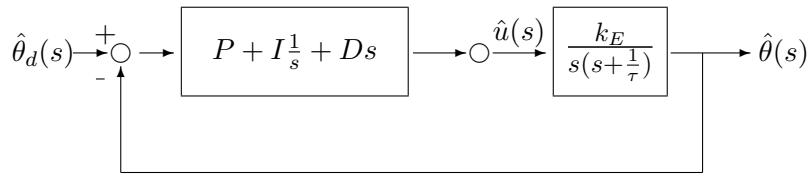
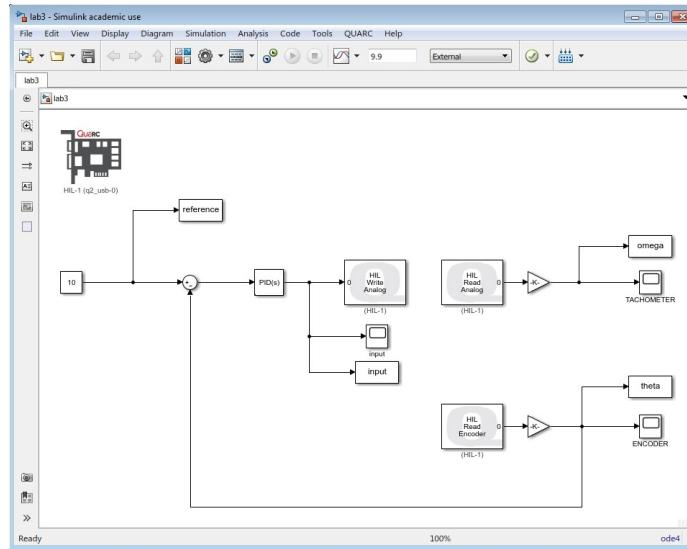

Figure 1.1: PID control system
Figure 1.3: Simulink model for the implementation of PID control
In this lab you will be examining the effects of feedback on system performance. In particular, you will design a control, R_C , for the motor using the principles of PID control as shown in Figure 1.1.
1. Using the Simulink model shown in Figure 1.3, and identify the corresponding components from Figure 1.1, i.e. what block acts as the plant, what is the reference trajectory, input, output, etc.
1. Prepare a Simulink model to implement a PID controller as shown in Figure 1.3. *Modify your model from lab 1 or 2.* The PID block can be found in the Simulink
2. Set the desired angle to 10 radians. The desired input is entered as shown in Figure 1.3 in the **Constant** block. Remember to use the appropriate gain values from Table C.1 for the encoder and tachometer to show results in radians. Do not forget to change the **solver** to **ode 4** in **Configuration Parameters** (**Ctrl+E**). Build and run the Simulink model using only the proportional term. Comment on the effects of using various values of P . In particular, comment on the overshoot, rise time, settling time, and the steady-state error for different values of P , and be sure to tabulate this data (a table in Excel is an efficient way to do this). Use at least three different values of P .